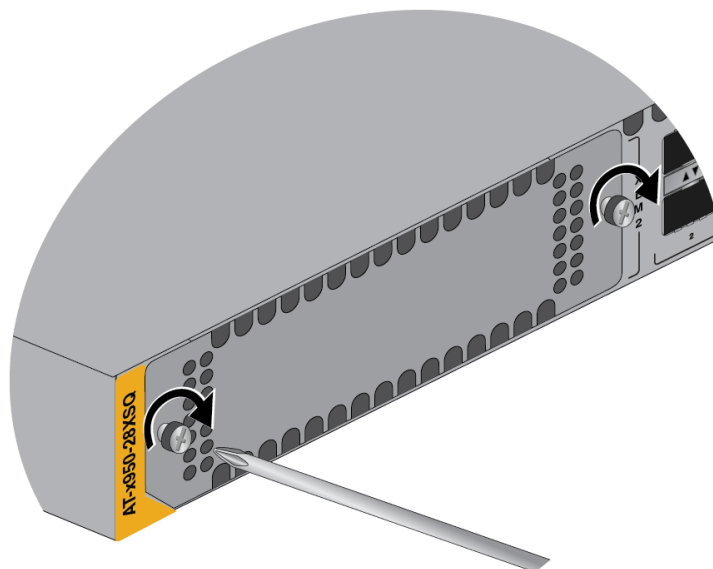

Figure 140. Tightening the Two Screws on the Line Card Blank Panel
10. Tighten the two screws to secure it to the switch. Refer to Figure 140.